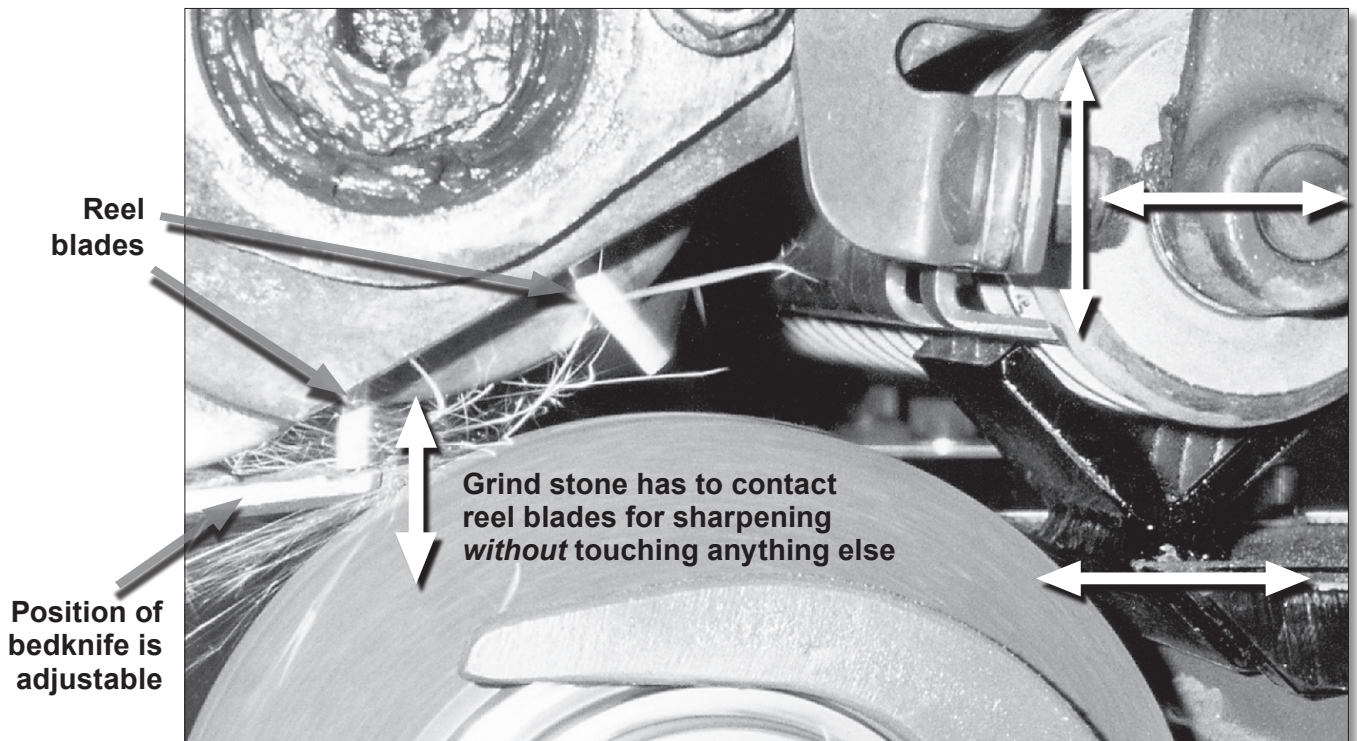

Fig: 6.3
- 6.3 To ensure that the correct position for the mower unit has been achieved, both control wheels (right hand and left hand) should be wound in a clockwise direction so that the grinding wheel may be placed to contact each end of the reel evenly. If the grinding wheel touches the bedknife or any part other than the reel, the whole unit must be moved by adjusting the position of the multifix brackets or roller brackets. The exact position required will be easily seen by looking along the mainshaft from one end of the machine as the stone is raised to check that the point of contact is in a suitable position (see Figure 6.3).